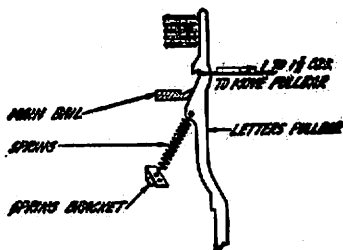

Fig. 30
4.51 "Letters" pullbar spring tension shall be min. 1 oz., max. 1-1/2 ozs. when measured as in Fig. 30 with the main bail in its lowest position.